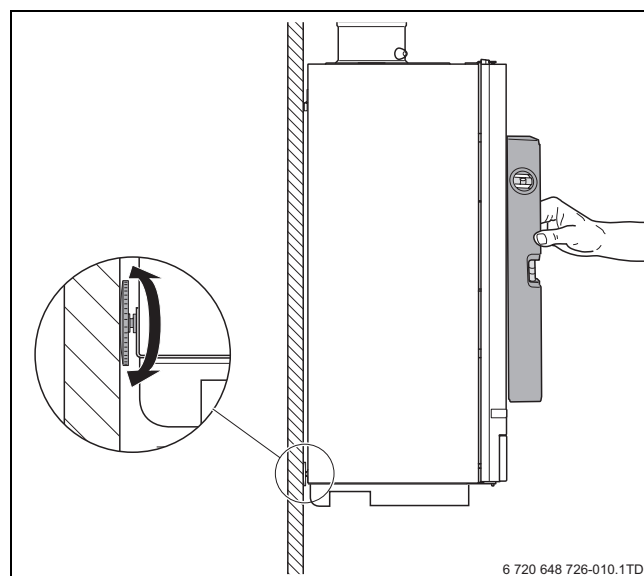

Fig. 10 Aligning the boiler with the set screw
- ▶ Level the boiler using the set screw and a spirit level (→ fig. 10).